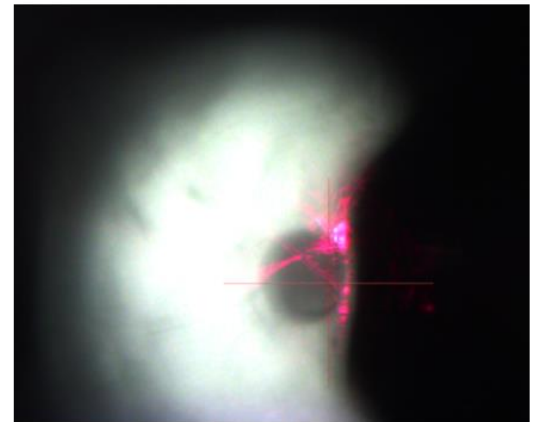

Figure 9: Optical fiber visible at low illumination
5. Check that the microscope illumination is low enough to see the optical fiber, shown in Figure 9.